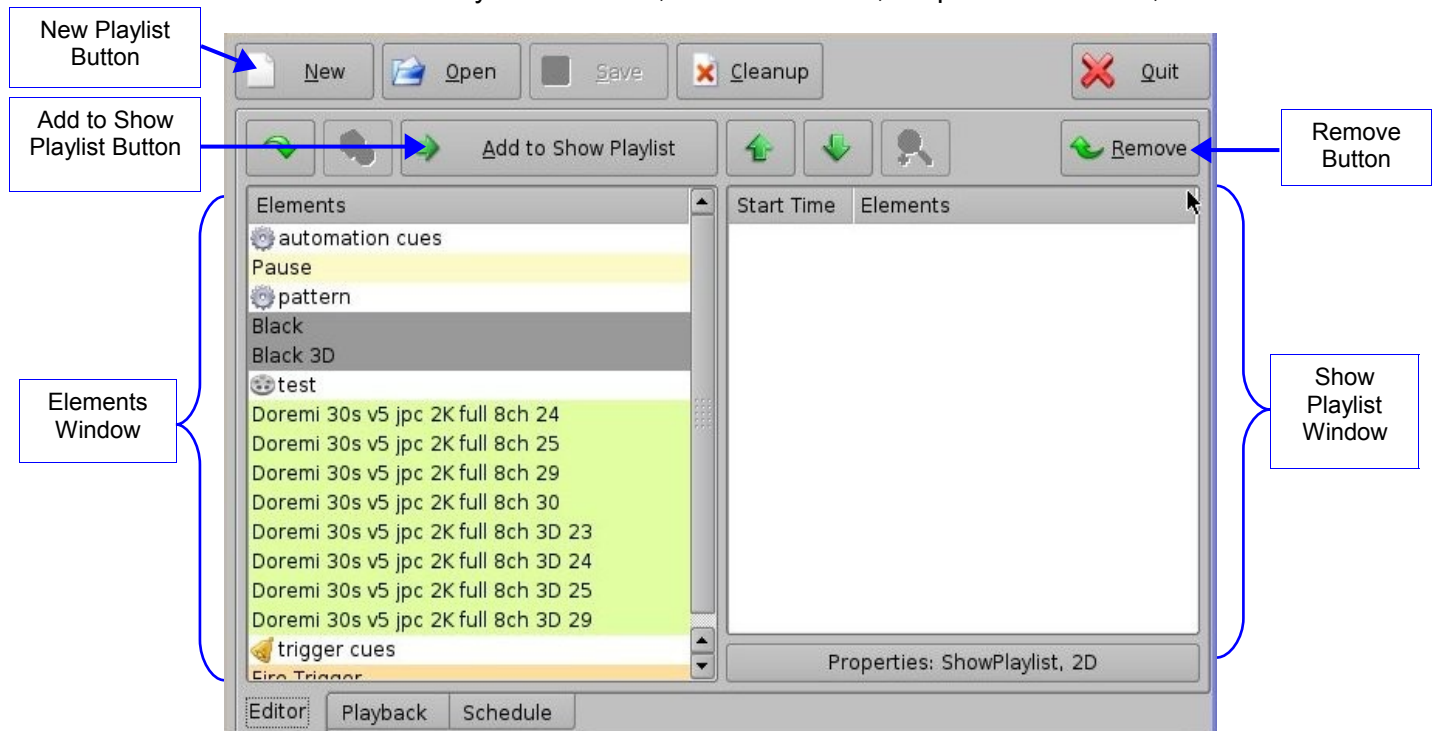

Figure 159: CineLister GUI – Editor Tab
- Click on the New button from the CineLister Editor tab (Figure 159).
- Click on the elements to add to the SPL from the left pane of the GUI. Use the Ctrl (PC) or Command (Mac) button to select more than one element at a time.
- Click on the Add to Show Playlist button (Figure 159). The element(s) will appear in the right pane.
- To remove an element in a Show Playlist, select it in the Show Playlist window and click the Remove button (Figure 159).